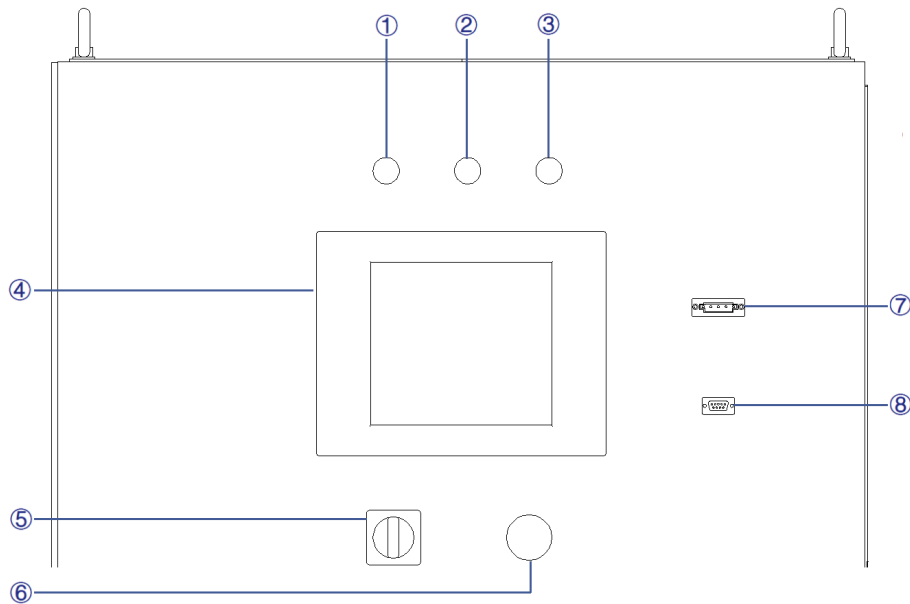
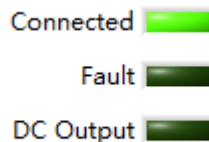

Figure 3-4 Front Panel
Figure 3-5 Touch screen software indicators
A few seconds after the power is initialized, the control unit and touch screen works, the power supply is standby. If the power supply communication is normal, the white light (Figure 3-4①) is always on. All functions and parameters can be accessed through the TFT-Touch panel or GUI software to set up and run, the "Connect" indicator on the touch screen software interface is green (Figure 3-5).